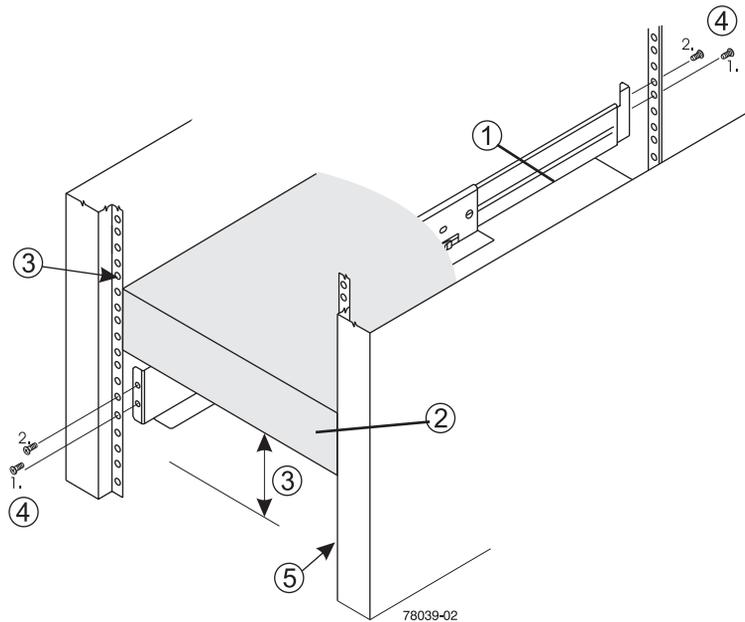

Figure 1-18 Rail Mounting Overview Example
4. Position and secure the support rails in the rack using the information in Figure 1-18 on page 22.